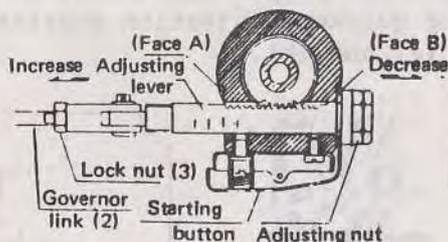

Fig. 23
- (b) Then, loosen two lock nuts (3) of governor link (Fig. 23).